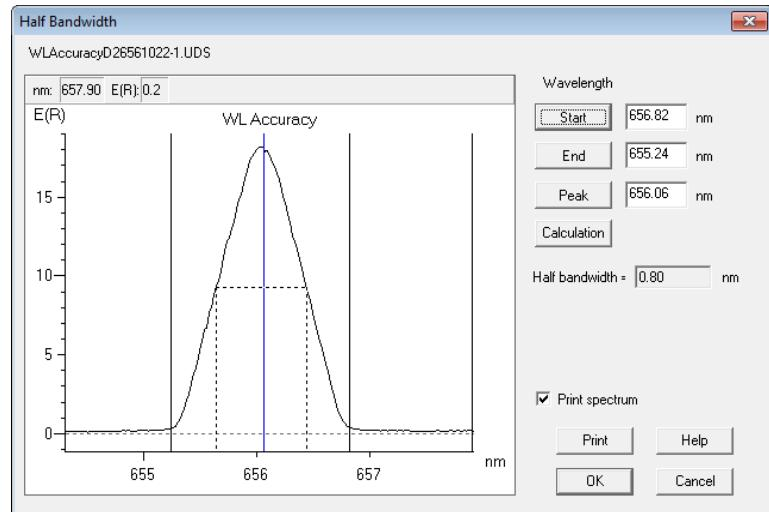

Fig. 5-94
- (2) Release the mouse button while an area is being specified, and an enlarged image will appear as shown in Fig. 5-94.